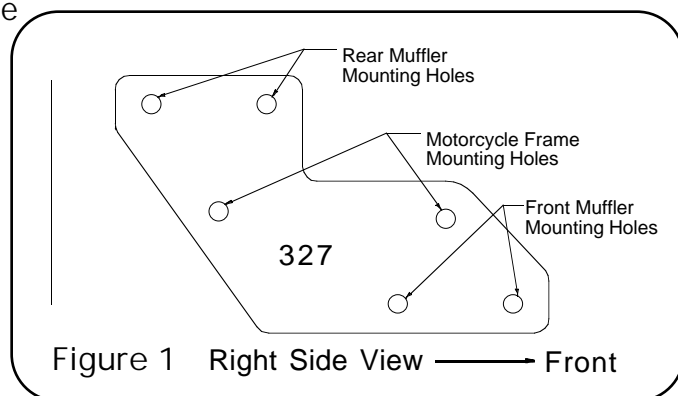

Figure 1 Right Side View → Front
2. Install mounting bracket (stamped 327) in the original muffler mounting position, using two stock 8mm bolts and nuts. Refer to figure 1.